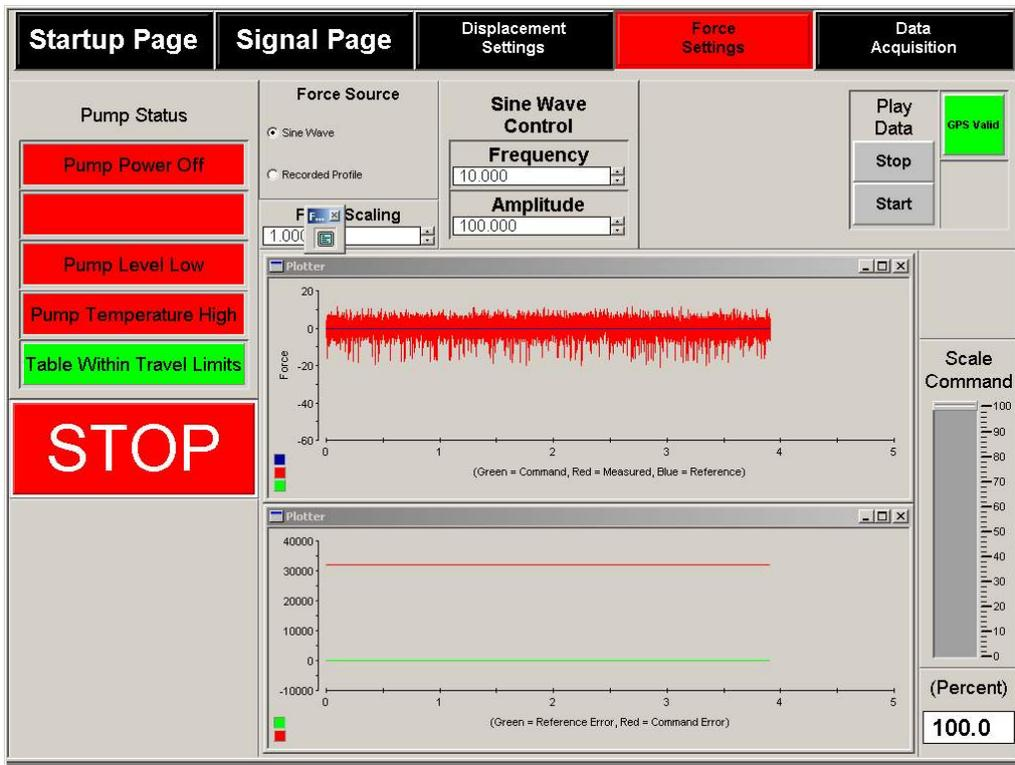

Figure 4.
- Go to Force Setting Page, adjust the balance of accelerometer. To do that, double-click the axis of upper graph in “Force Settings”, then rotate the knob of signal conditioner (Ch.1; x-axis) so that the measurement (red line) can be set to zero(or as close as possible) figure 4.